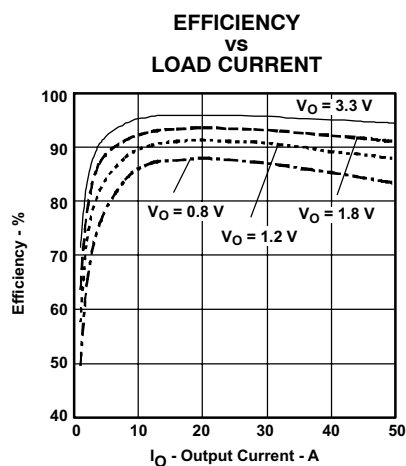
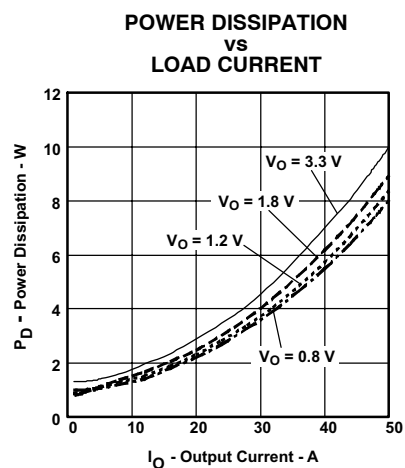

Figure 5.
Figure 6.
- (2) The temperature derating curves represent the conditions at which internal components are at or below the manufacturer's maximum operating temperatures. Derating limits apply to modules soldered directly to a 4-mm x 4-mm, double-sided PCB with 1-oz. copper. For surface mount packages (AS and AZ suffix), multiple vias (plated through holes) are required to add thermal paths around the power pins. Please refer to the mechanical specification for more information. Applies to Figure 3 and Figure 6.
- (3) The electrical characteristic data has been developed from actual products tested at 25°C. This data is considered typical for the converter. Applies to Figure 5 , and Figure 6.